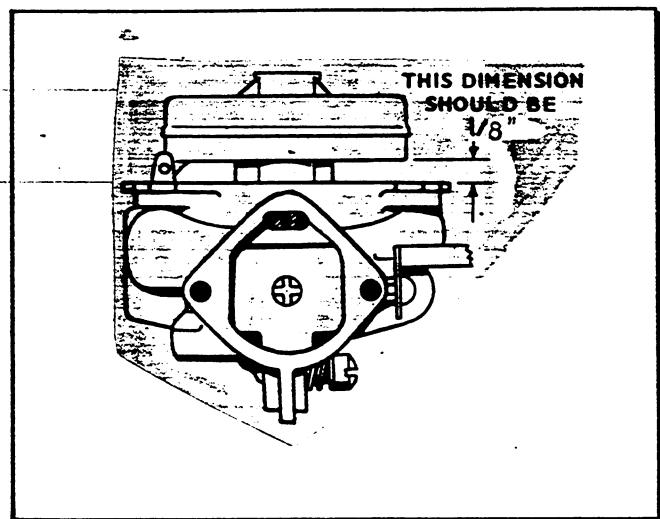

FIG. 4 - CARBURETOR FLOAT ADJUSTMENT
2. Set float level. With carburetor casting inverted and float resting lightly against needle in its seat, there should be  $1/8''$ , plus or minus  $1/32$  of an inch clearance between machined surface of casting and free end of float (side opposite needle seat). See Fig. 4.